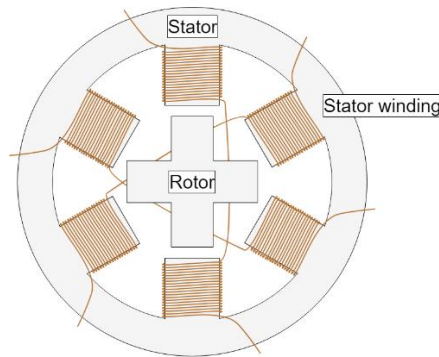
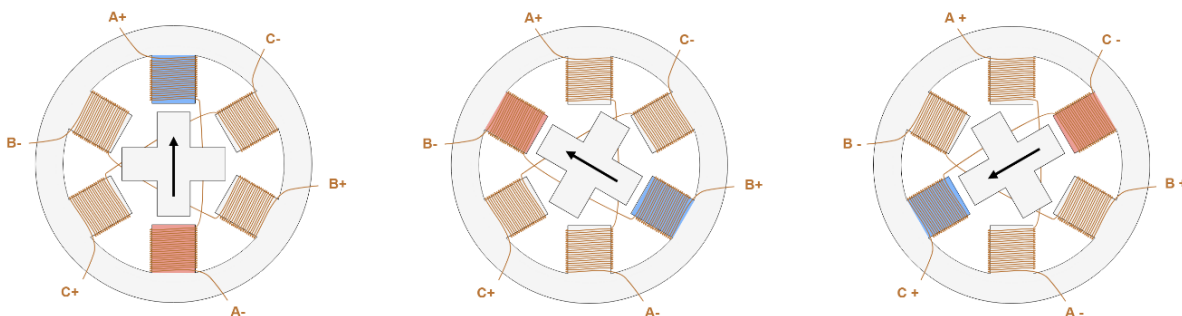

Figure 1: Cross-Section of a Stepper Motor
Figure 2: Stepper Motor Steps
As all with electric motors, stepper motors have a stationary part (the stator) and a moving part (the rotor). On the stator, there are teeth on which coils are wired, while the rotor is either a permanent magnet or a variable reluctance iron core. We will dive deeper into the different rotor structures later. Figure 1 shows a drawing representing the section of the motor is shown, where the rotor is a variable-reluctance iron core.
The basic working principle of the stepper motor is the following: By energizing one or more of the stator phases, a magnetic field is generated by the current flowing in the coil and the rotor aligns with this field. By supplying different phases in sequence, the rotor can be rotated by a specific amount to reach the desired final position. Figure 2 shows a representation of the working principle. At the beginning, coil A is energized and the rotor is aligned with the magnetic field it produces. When coil B is energized, the rotor rotates clockwise by 60° to align with the new magnetic field. The same happens when coil C is energized. In the pictures, the colors of the stator teeth indicate the direction of the magnetic field generated by the stator winding.
- **Variable reluctance rotor:** The rotor is made of an iron core, and has a specific shape that allows it to align with the magnetic field (see Figure 1 and Figure 2). With this solution it is easier to reach a higher speed and resolution, but the torque it develops is often lower and it has no detent torque.